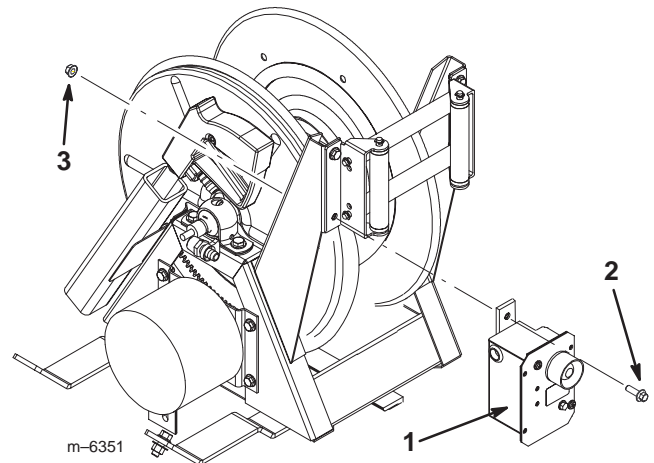

Figure 4
6. Remove and discard the bolt and nut from the lower inside roller support on the hose reel and install the electrical box in that hole (Fig. 4), using a flange-head bolt (5/16 x 1 inch) and a flange nut (5/16 inch).